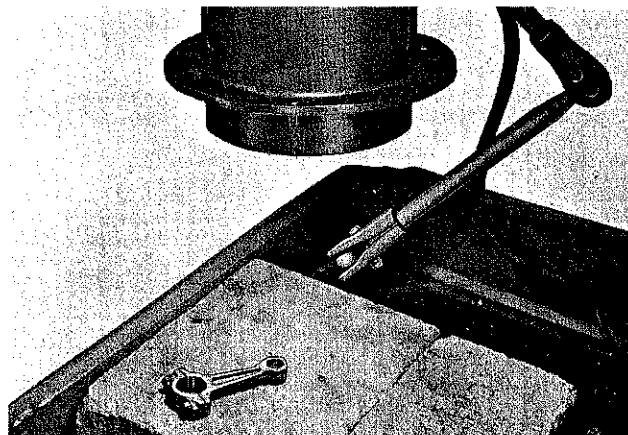

Figure X-18. Heating the connecting rod eye prior to installing rod in the piston.
1. Heat the connecting rod under a heat lamp or oven to approximately 300°F. (150°C.). (Figure X-18)